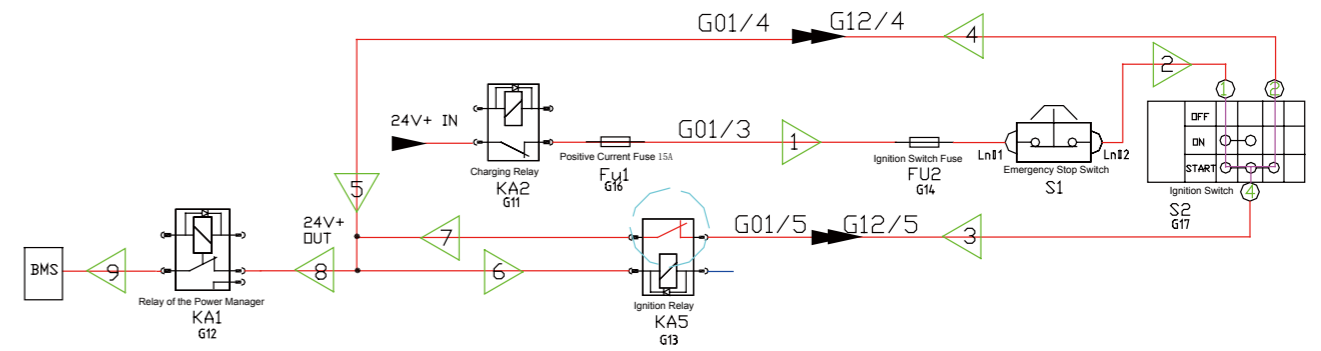

Fig. 3
- Turn the ignition switch S1 to the third gear, the ignition relay KA5 is energized to supply power. As shown in Figure 3, the current trend direction of ignition relay KA5 is 1—2—4—5—6 ( Ignition switch S1 third gear ) .